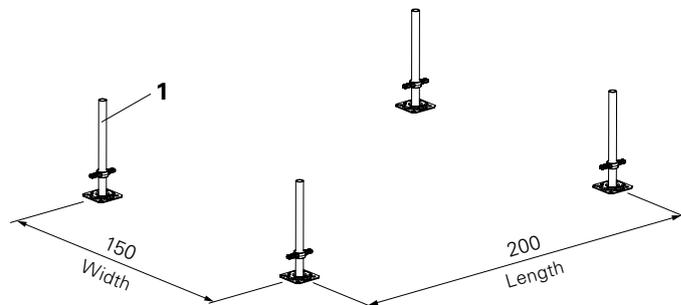
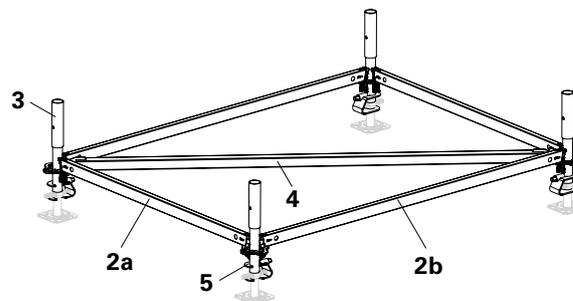

Fig. A1.01
Fig. A1.02
- using a 150 x 200 cm ground plan, (Fig. A1.01)
1. 1. Position four Adj. Base Plates (1) in the form of a 1.25 x 1.50 m rectangle on the ground. (Fig. A1.01)
2. 2. Position Base Standard (3) on the Adjustable Base Plate – 4x.
4. 4. Install H-Brace (4).
- Assembly aid for ensuring right angularity. (Fig. A1.02)
5. 5. Optional: installation of Spindle Locking (5).